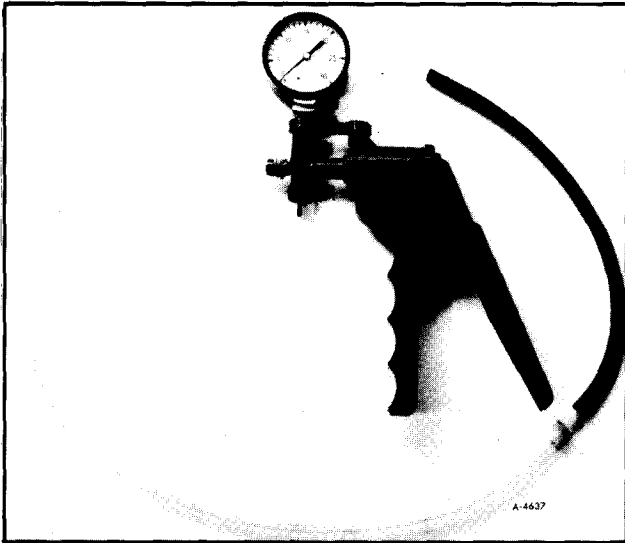

Figure 12—Vacuum Gauge (J-23738)
2. Disconnect the valve to actuator hose at the actuator and connect to a vacuum gauge. (figure 12).